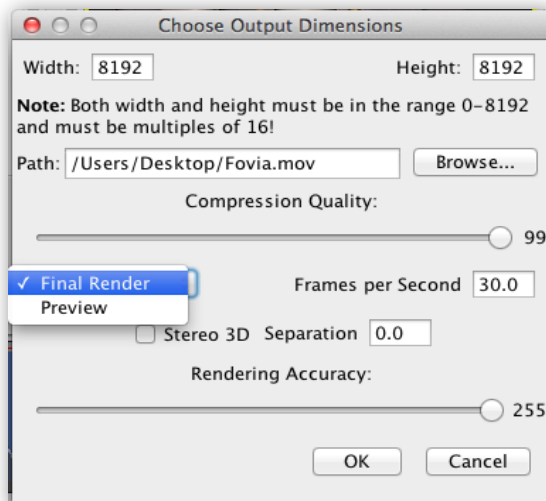

FIGURE 10.8: Saving QuickTime movies
**Movie Output:** The movie editor can be used to preview movies and final renders. Movies can be rendered in resolutions up to 8192 x 8192 pixels. When selecting the dimensions, keep in mind the capacity of the movie player you intend to use. Select the preview setting and render a test movie first in order to double check your movie before a final render (Figure 10.8). Once ready for a final rendering, select appropriate Compression Quality and Rendering Accuracy. (We recommend 99 and 255 respectively.)